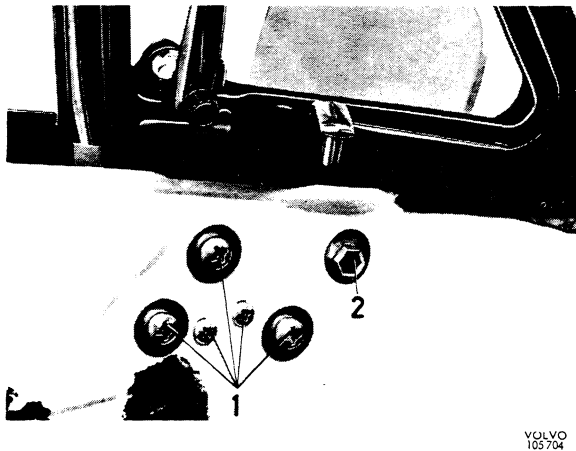

Fig. 8-22. Screws for ventilation window
4. Undo the screws holding the frame (1, Fig. 8-22).
2. Undo the plastic covering the door and release the bolt (2, Fig. 8-22). Put your hand through the large hole in the inner plate of the door and remove the cover for the ventilation window pivot pin.
4. When fitting, tighten the bolt (2, Fig. 8-22) until the window is sufficiently stiff to open and close.